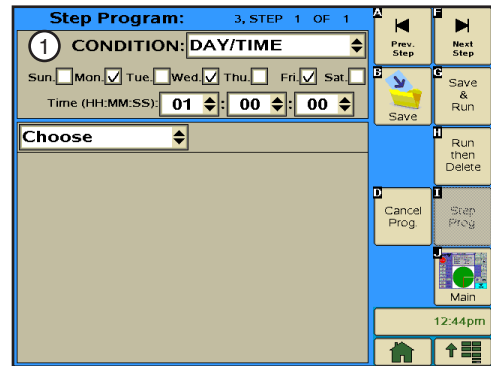

Figure 116-2 1. Condition Field and Parameters
5. Select the **Condition** field and choose a condition for this step. Refer to Figure 116-2.